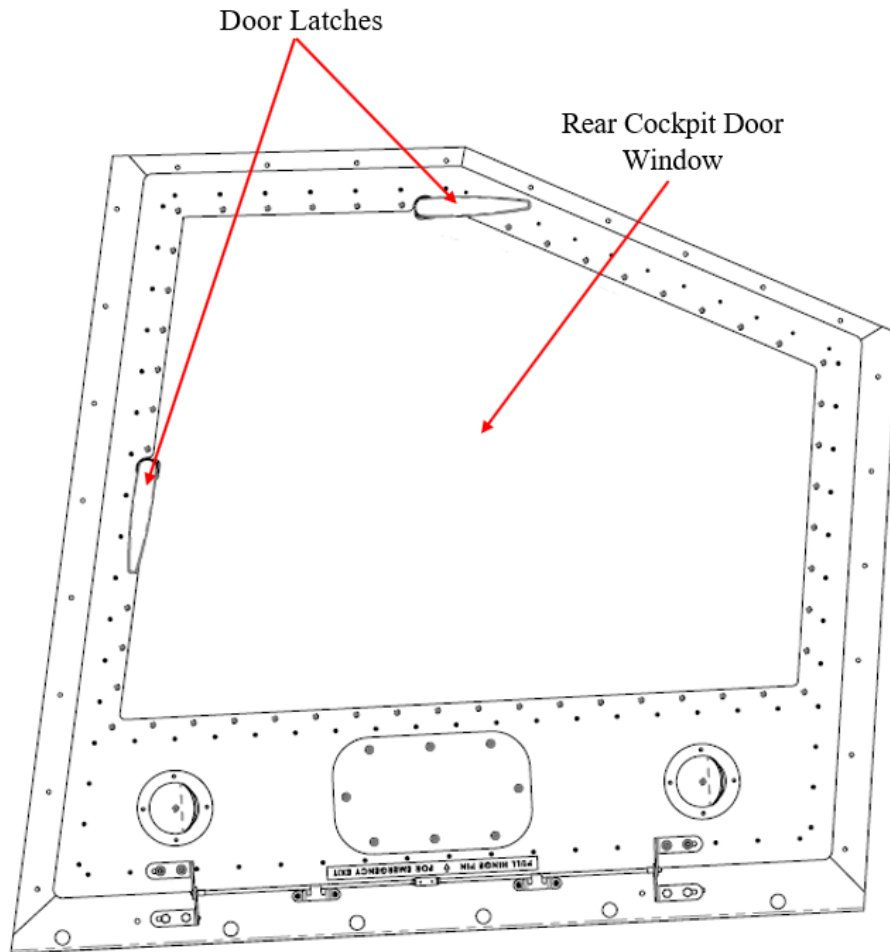

Figure 10: Dual Cockpit Door Latches (Outside View)
2. Remove two door latches at the top and front of the door (Figure 10).
6. Remove and discard old rear cockpit door window (Figure 10).